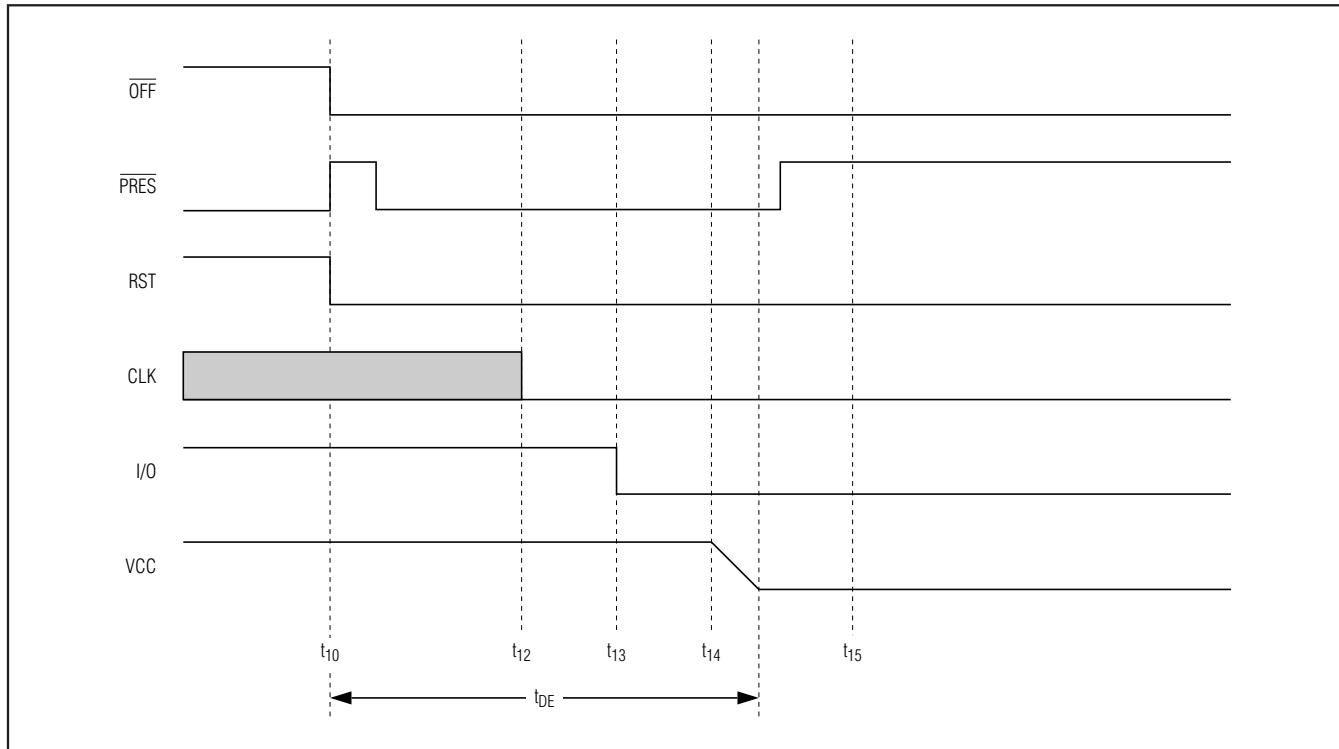

Figure 7. Emergency Deactivation Sequence (Card Extraction)
- **CMDVCC Low Within a Card Session.** Output  $\overline{OFF}$  goes low when a fault condition is detected, and an emergency deactivation is performed automatically (Figure 7). When the system controller resets CMDVCC to high, it may sense the  $\overline{OFF}$  level again after completing the deactivation sequence. This distinguishes between a card extraction and a hardware problem ( $\overline{OFF}$  goes high again if a card is present). Depending on the connector's card-present switch (normally closed or normally open) and the mechanical characteristics of the switch, bouncing can occur on the PRES signals at card insertion or withdrawal.